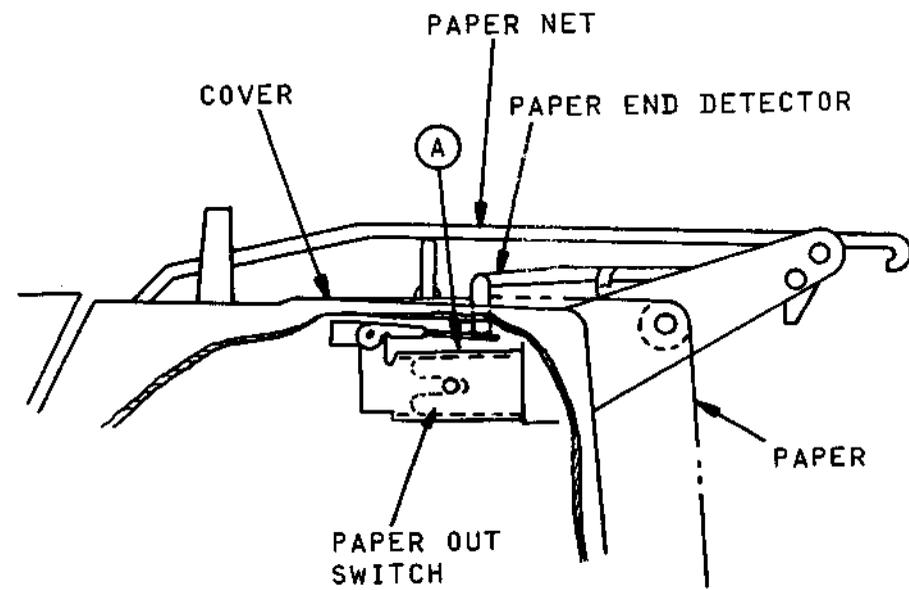

Figure 5-18 Paper Out Switch Adjustment
5.15 PAPER OUT SWITCH (RO, KSR) (Figure 5-18)
- a. With the paper properly set, the paper end detector must not contact actuator A in Figure 5-18 of the paper out switch.